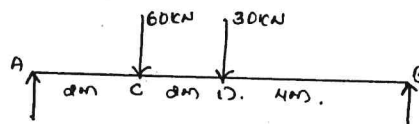

Fig.Q3(b)
- b. A SSB spanning 8m carries concentrated loads of 60 kN and 30 kN at a distance of 2 m and 4 m from the left support. Determine the slopes at the ends and location and magnitude of the maximum deflection. Assume $E = 200 \text{ GPa}$ and $I = 20 \times 10^8 \text{ mm}^4$ (Macaulay's method). [Refer Fig.Q3(b)]